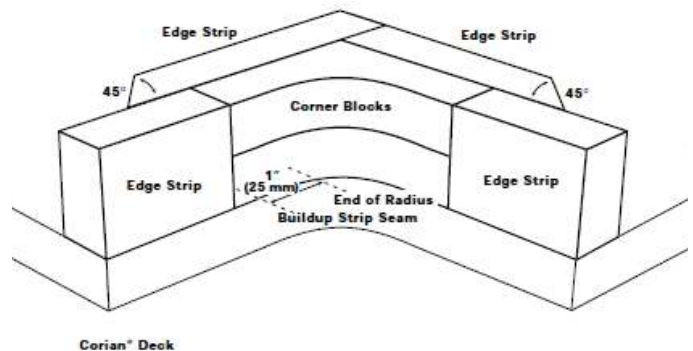

Figure L-2
5. Seam all pieces in place and to each other, and finish in the usual manner. See Figure L-2.